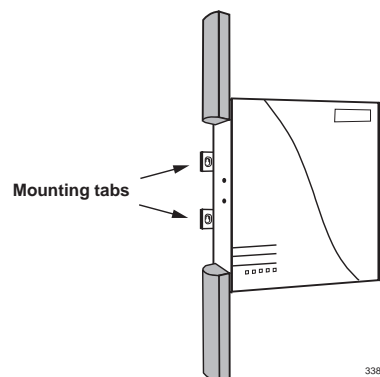

Figure 16-14 Location of Mounting Tabs
③ To wall mount the Base Station
3. Rotate the Base Station antennas to expose the mounting tabs (see Figure 16-14).